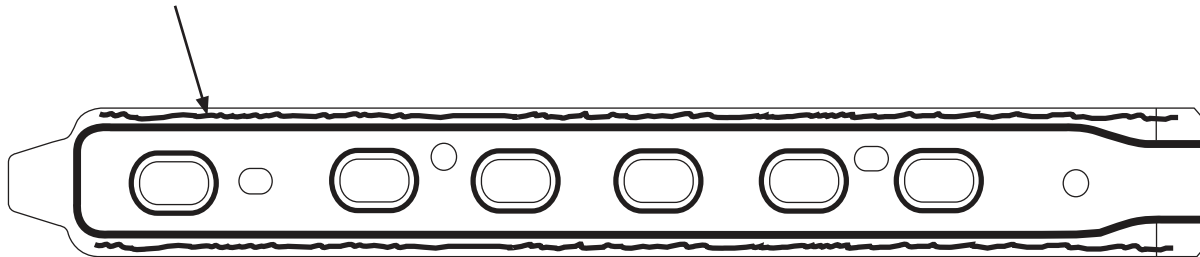

FIGURE 2
- (Refer to Figure 2) for location for adhesive material.